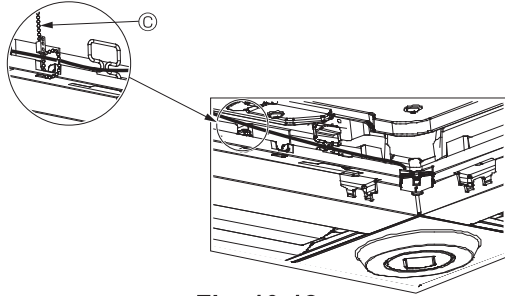

Fig. 10-12
- Secure the i-See sensor and signal receiver wires to the panel with the fastener as shown in the diagram so that there is no slack in the wires, and then cut off the excess end of the fastener. (Fig. 10-12)
- If the position of the i-See sensor was changed from the "o" position (E) to the "□" position (F), change the function settings. (Refer to page 11.)